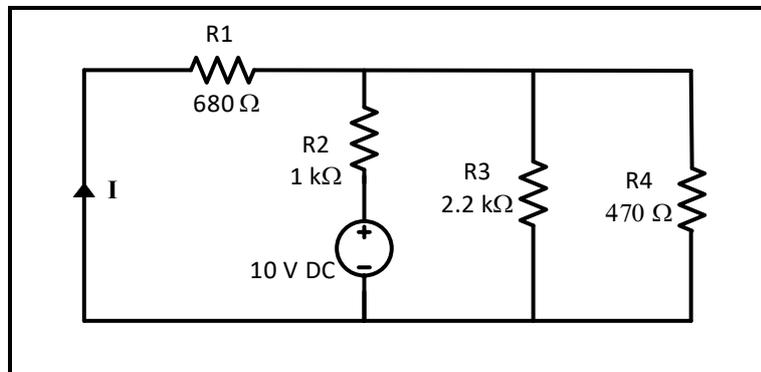

Figure 4.9
1. Simulate the circuits of Figure 4.9 and Figure 4.10 using PSPICE to find the value of the current (I).
2. Connect the circuit of Figure 4.9, measure and record the current I in Table 4.8.